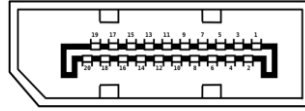

Figure 3-31: External DP Connector Pinouts
- CN Location:** See **Figure 3-31**